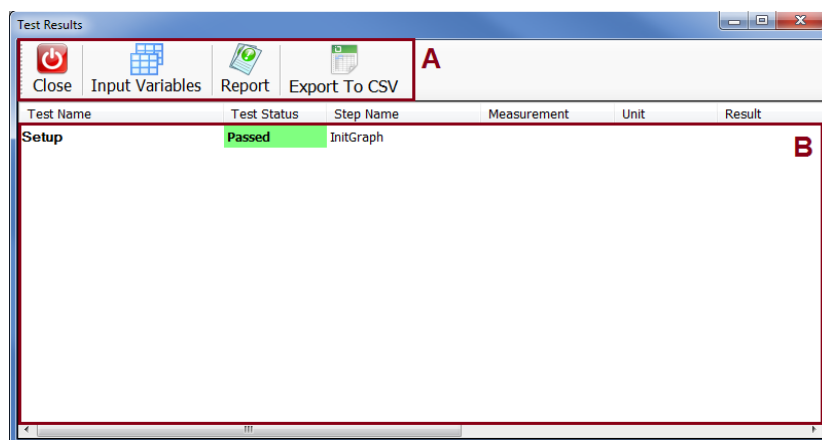

Fig 11-3 **Test Result** window
1. Under Result area Fig 11-3 \(B\), select test.